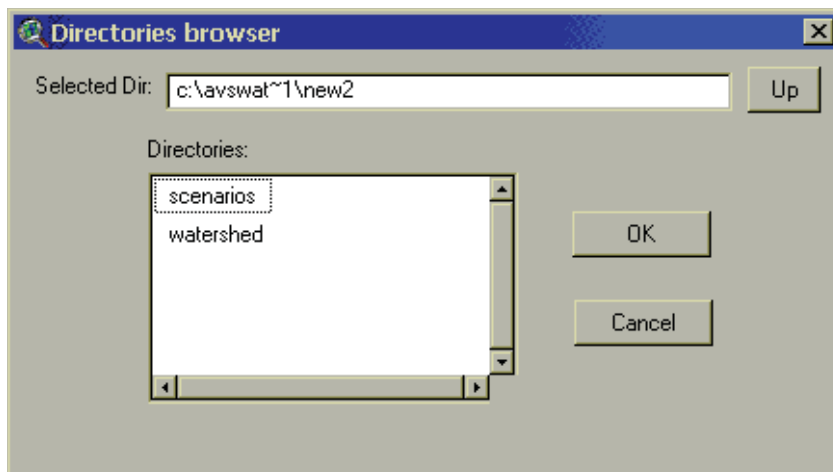

Figure 4.12
3. Type in the directory path or press the  button to activate a browser (Figure 4.12).